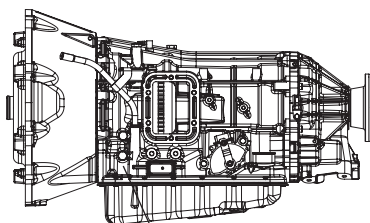

Fig. 18 Main Pressure Port "P"
6. Locate the transmission main pressure port (see Figure 18). Remove the installation kit 48TK5472 components from the FA6B PTO carton. Locate the straight fitting (43T39222) and the elbow fitting (43T36445).